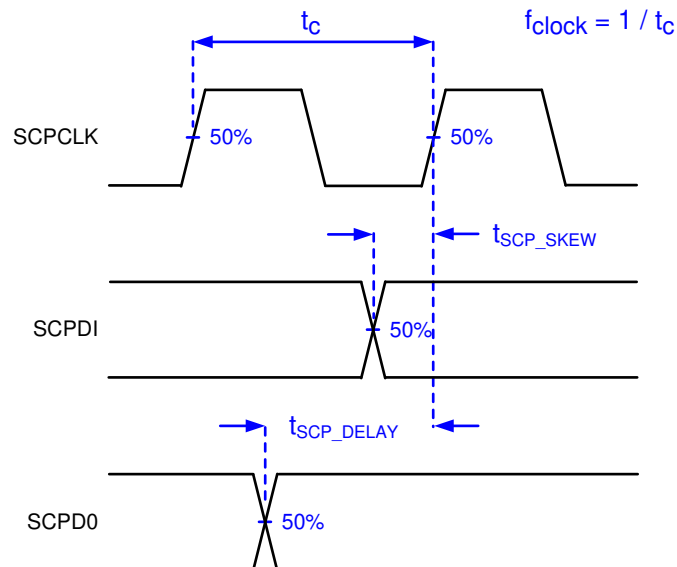

Figure 6-3. Serial Communications Bus Timing Parameters
- (5) PWRDNZ input pin resets the SCP and disables the LVDS receivers. PWRDNZ input pin overrides SCPENZ input pin and tri-states the SCPDO output pin.
- (6) The SCP clock is a gated clock. The duty cycle shall be $50\% \pm 10\%$. SCP parameter is related to the frequency of DCLK.
- (7) Refer to 図 6-3.
- (8) SCP internal oscillator is specified to operate all SCP registers. For all SCP operations, DCLK is required.
SERIAL CONTROL BUS TIMING PARAMETERS (See Figure 6-3 and Figure 6-4)